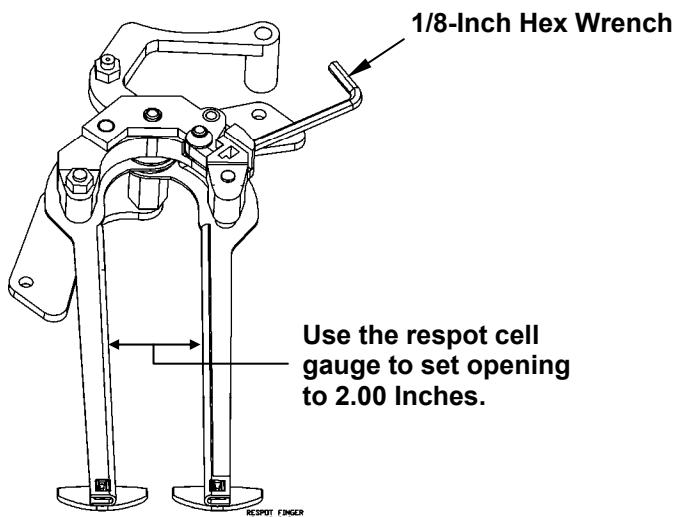

Figure 4.2-18
2. Using a 1/8-inch hex wrench and the widest part of the respot cell gauge (070-006-519), adjust each of the respot cells for a 2-inch opening between fingers approximately mid way along the fingers (see Figure 4.2-18). This adjustment can be made with the respot cell either in or out of the table.